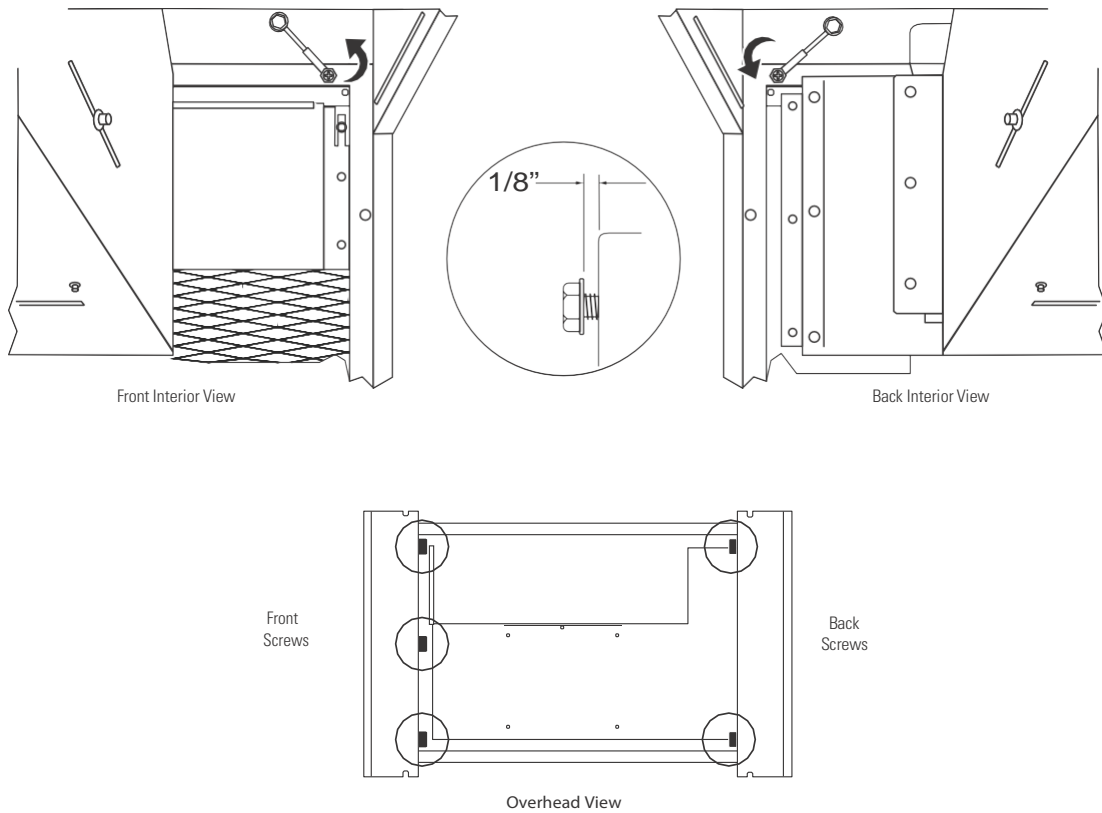

Figure 15. Removing the Cabinet Top Panel Screws
4. Use a ratcheting socket wrench with a 3/8-inch socket or a screwdriver to loosen the bolts that secure the cabinet top panel (see Figure 15):